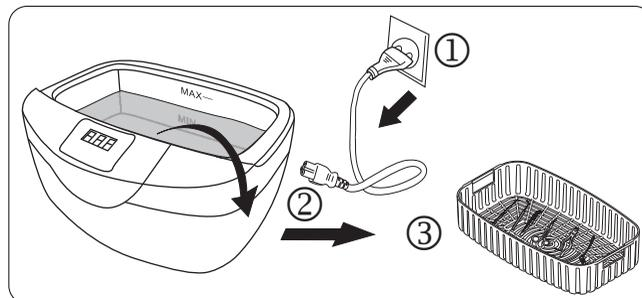

Fig.16
- 8► At the end of the cycle the display will show 000 and the cavitation process will stop automatically. Unplug the equipment and open the lid. (Fig. 16).